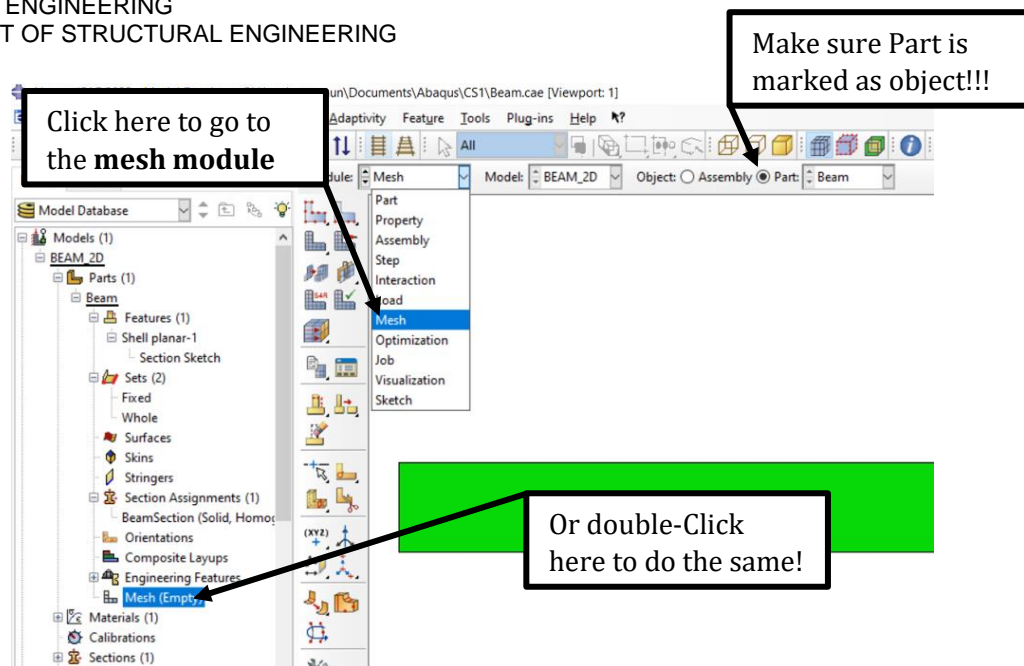

Figure 2-21 – How to access the meshing environment.
1. In the Module drop-down menu, choose **Mesh** to access the meshing environment. You may alternately double-click on **Mesh** in the branch for the part **Beam** in the **Model Tree**. See Figure 2-21.